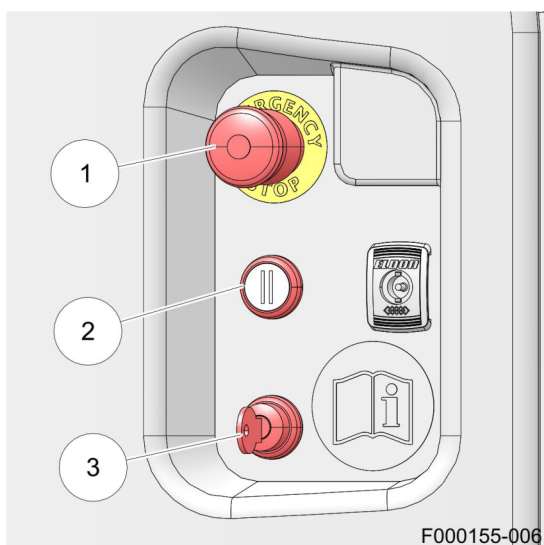

Figure 33. Pause button
1. When the Mixing and Feeding Robot was taken out of operation with the pause button: Push the pause button (2) (see figure 33 on page 5-4).